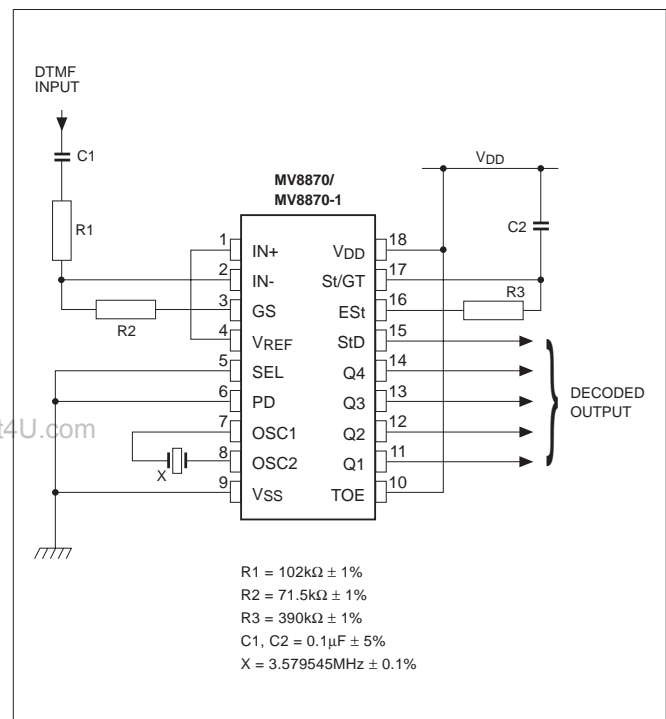
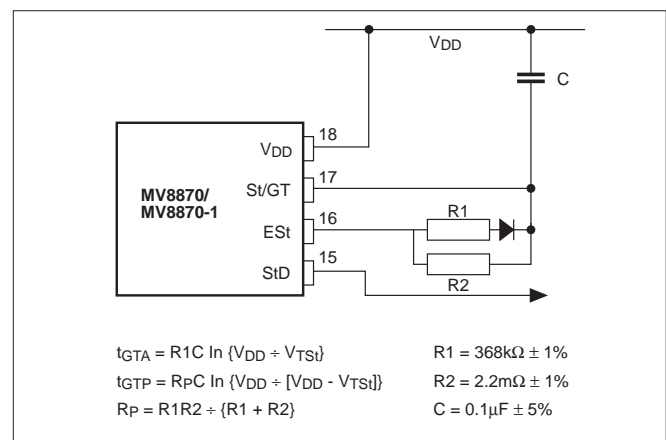

Figure 11: Single ended circuit for BT/CEPT Specs
Figure 12: Non-symmetric guard time circuit
The circuit shown in Fig.11 illustrates the use of the MV8870-1 in a typical receiver system. The BT specification defines the non-operate level as input signals below 34 dBm. This is obtained by choosing R1 and R2 to give 3dB of attenuation so that an input of 34 dBm corresponds to -37 dBm at the op. amp. output pin (GS). The tolerances on R3 and C2 give a tolerance on guard time of 6%. For better performance the non-symmetric guard time circuit shown in Fig.12 is recommended.
12. Refer to Fig.11. Input DTMF Tone Level at -25dBm (-28dBm at GS pin). Interference Frequency Range is 480 to 3400Hz.